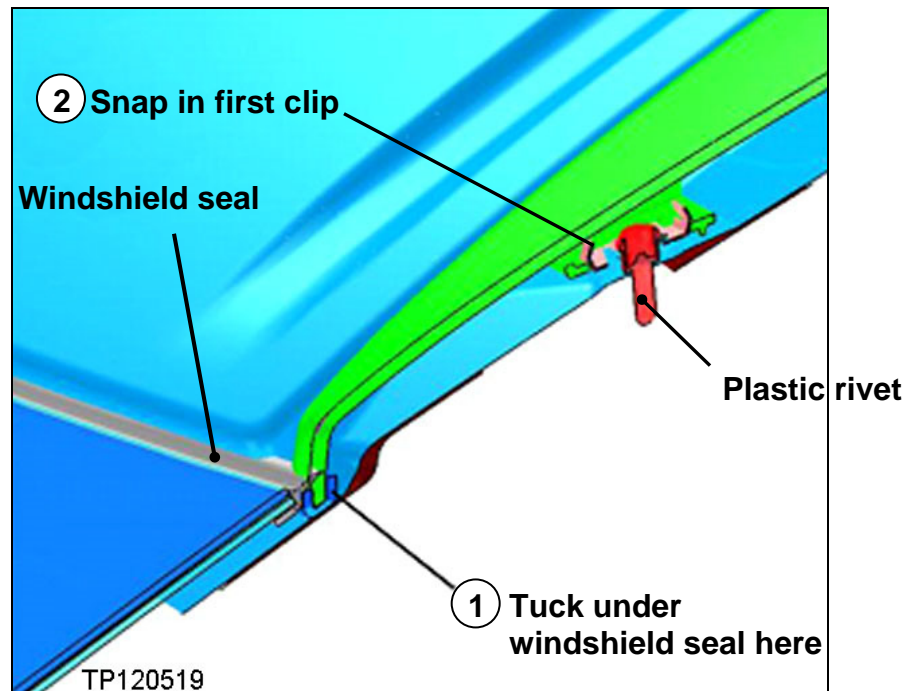

Figure 17
2. Tuck the front end of the new molding under the windshield seal (see Figure 17).
3. Snap in place the clip closest to the windshield first (see Figure 17).